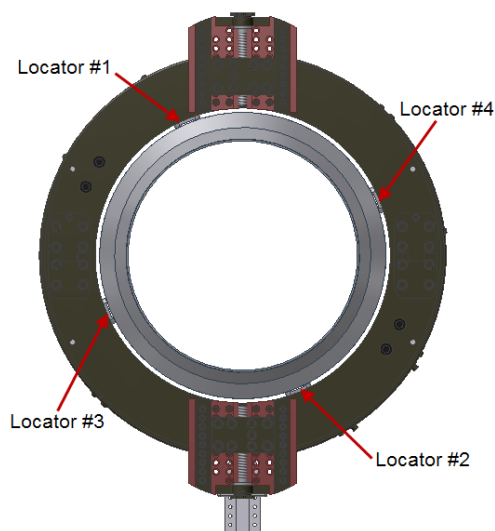

Figure 8
2. Lightly tighten two adjustable locator pads directly across from each other (locators 1 and 2 in Fig. 8), just enough to secure the Clamshell while trying to keep it centered on the work piece.
Lightly tighten two more locator pads that are directly across from each other and close to 90 degrees away from the first set of locators (locators 3 and 4 in Fig. 8). **DO NOT TIGHTEN** down completely until the Clamshell has been both squared and centered to the pipe.
1. Squaring: Place a square on the back of the Clamshell, directly in line with a locator, hold the square against the housing and the work piece and square the machine to the pipe at four locations around the pipe (see Fig 8).